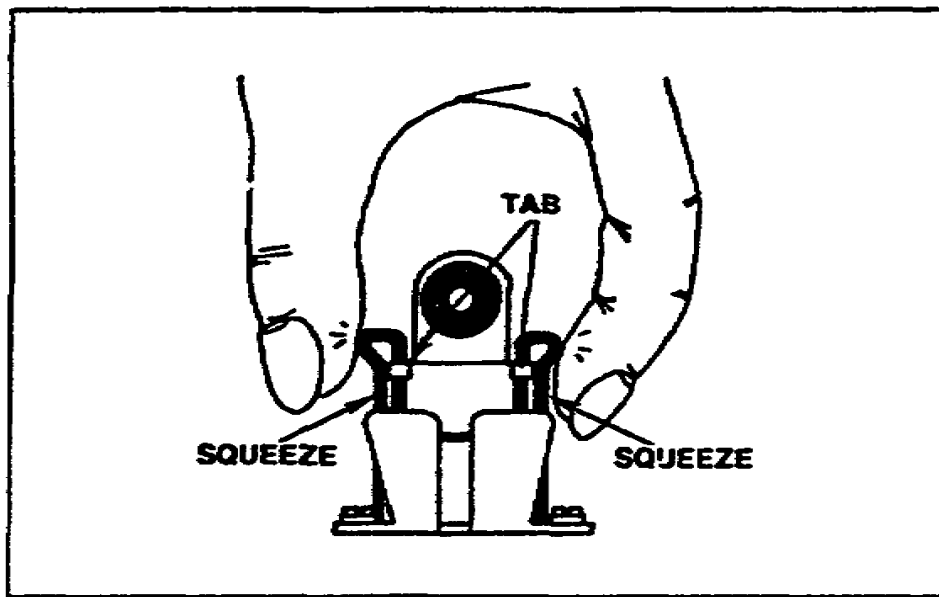

Figure 1-19. Spring latched.
31. Preparation for desk use. Loosen the carrying sling by moving the slide buckles. Unhook the strap and place the sling out of the way. Unsnap the tie-down strap. Adjust its length with the slide buckle so the strap can reach under the case. Place the strap under the case and snap it into place. Lift the handset and place the handset retaining spring in the latched position. Squeeze the sides of the spring and move it back behind the two tabs. Release the pressure to keep the spring latched behind the two tabs. When latched, the spring cannot hold the handset. (See Figure 1-19.) Place the handset on-hook.